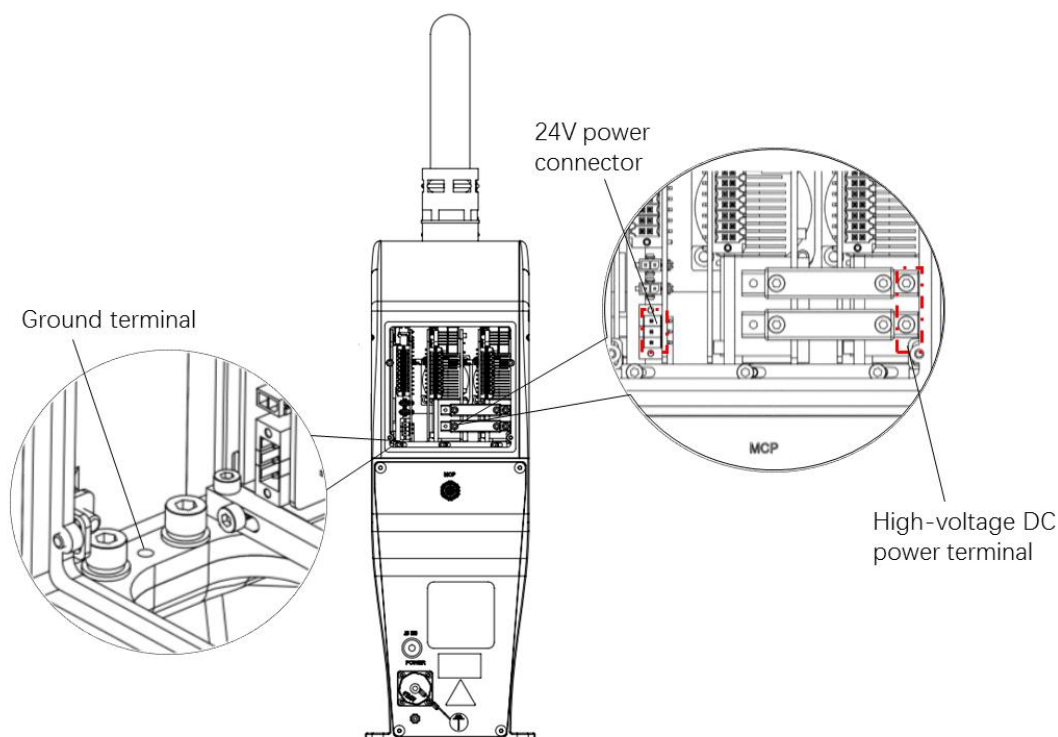

Figure 4-14 Disconnect connectors and related terminals in upper control cabinet
**Step 2** Refer to Section 4.4 to remove the upper control cabinet interface panel, disconnect the 24V power connector and high-voltage DC power terminal on the controller in the upper control cabinet, and loosen the ground terminal, as shown in Figure 4-14.